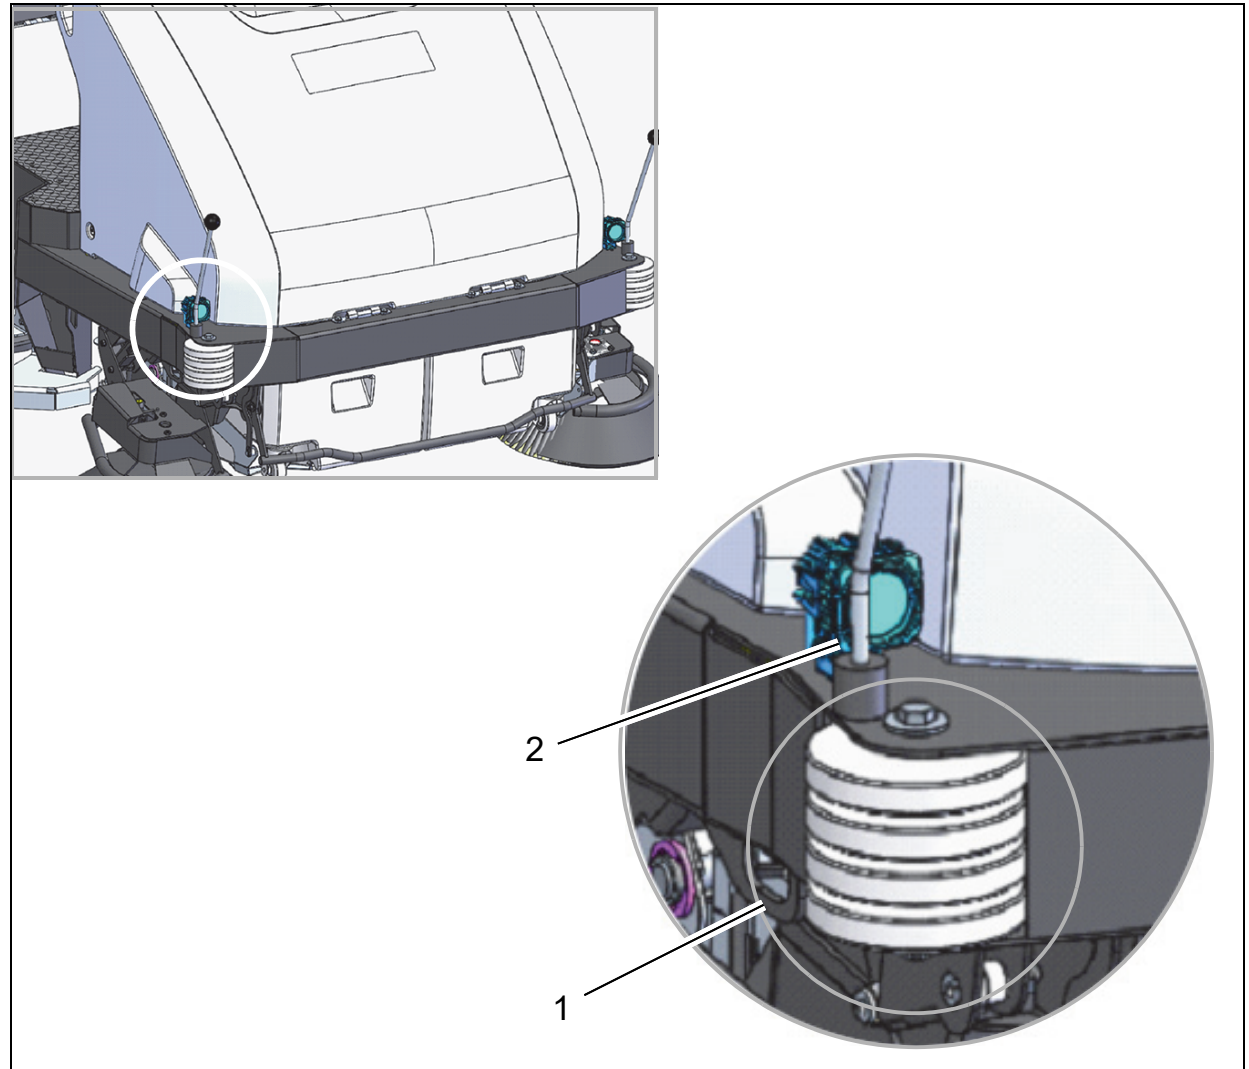

Fig. 3
Before installing the LED working light, the four start rollers with standard parts must be removed (Fig. 3/1).
3. Attach the LED working light to the bumper using the washer and the nut (Fig. 3/2).